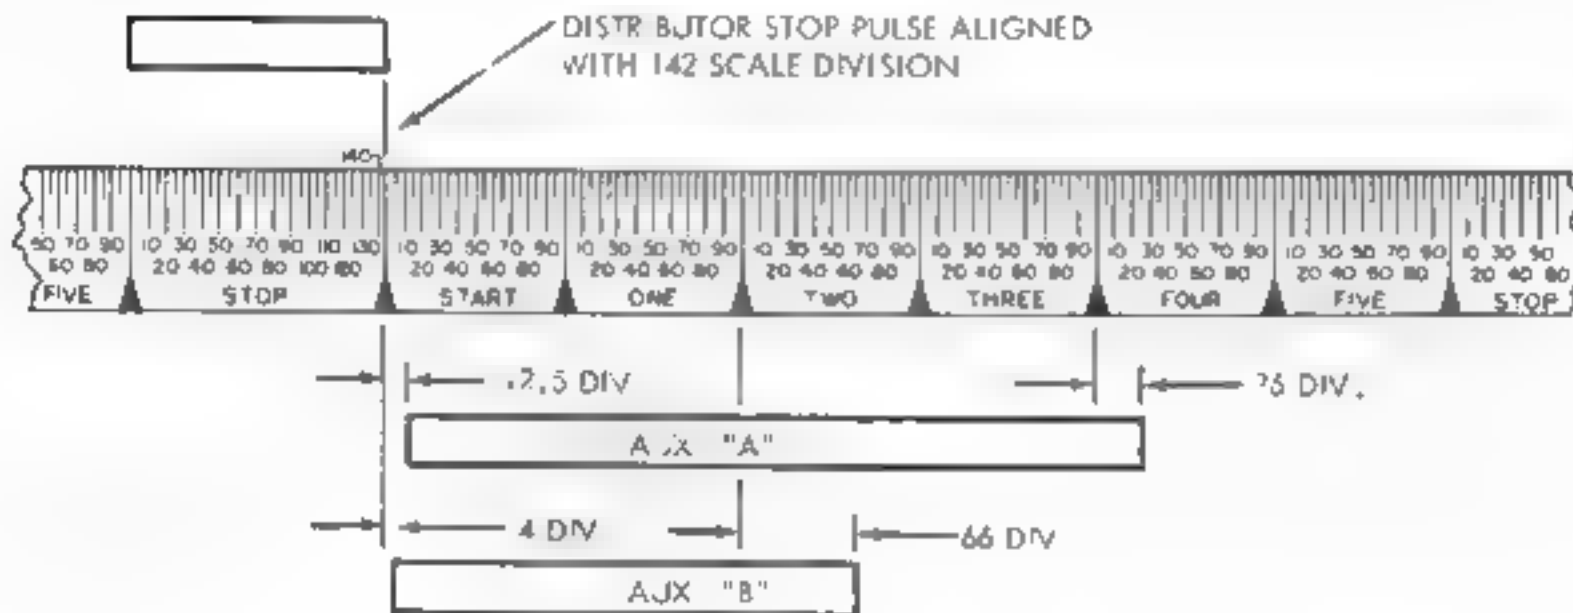

FIGURE 19. BXD 9 TRANSMITTER AUXILIARY CONTACT REQUIREMENTS
(4) Transmitter Auxiliary Contacts (See Figure 19)